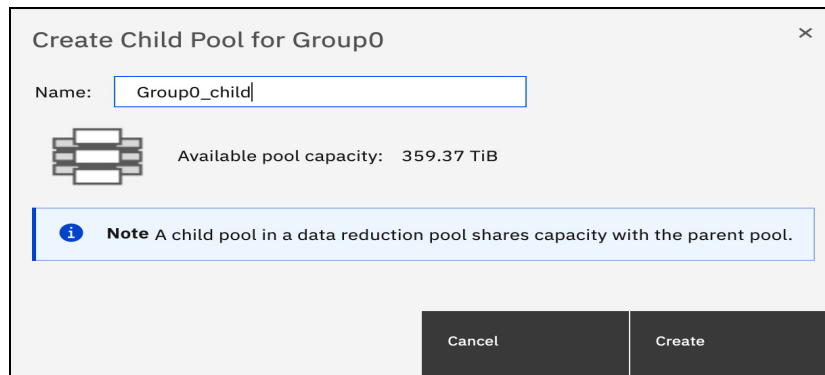

Figure 4-10 Create child pool page
2. Create a Data Reduction child pool, as shown in Figure 4-10 on page 138:
- d. Enter a name for the child pool, as shown in Figure 4-10.